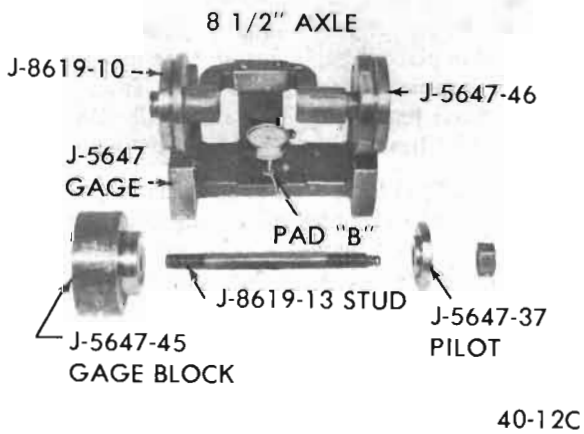
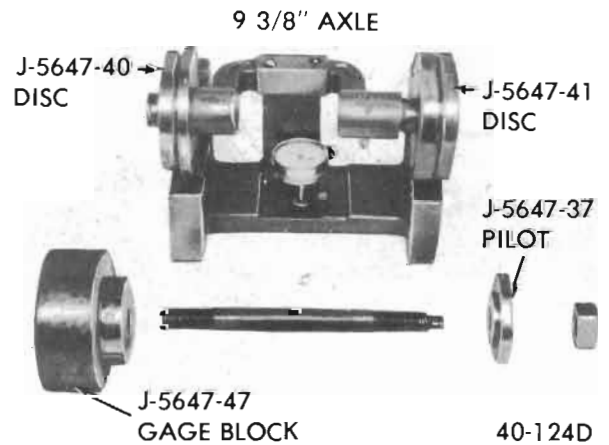

Figure 40-129 - Pinion Setting Gauge
Figure 40-129A - Pinion Setting Gauge
Pinion depth for all axles is set with Pinion Setting Gage J-5647. See Figure 40-129 for gage usage on the 8 1/2 inch ring gear axles and Figure 40-129A for gage usage on the 9 3/8 inch ring gear axles. Although production pinions are marked, neither production nor service pinions have a gaging tooth. The pinion setting gage provides in effect a nominal or zero pinion as a reference.
4. Install Discs J-5647-46 (L) and J-8619-10 (R) 8 1/2 inch ring gear axles or Discs J-5647-40 (R) and J-5647-41 (L) 9 3/8 inch ring gear axles on the indicator gage. Install the small ball-tipped contact button on the stem of the dial indicator and mount the dial indicator on the indicator gage. See Figure 40-129.